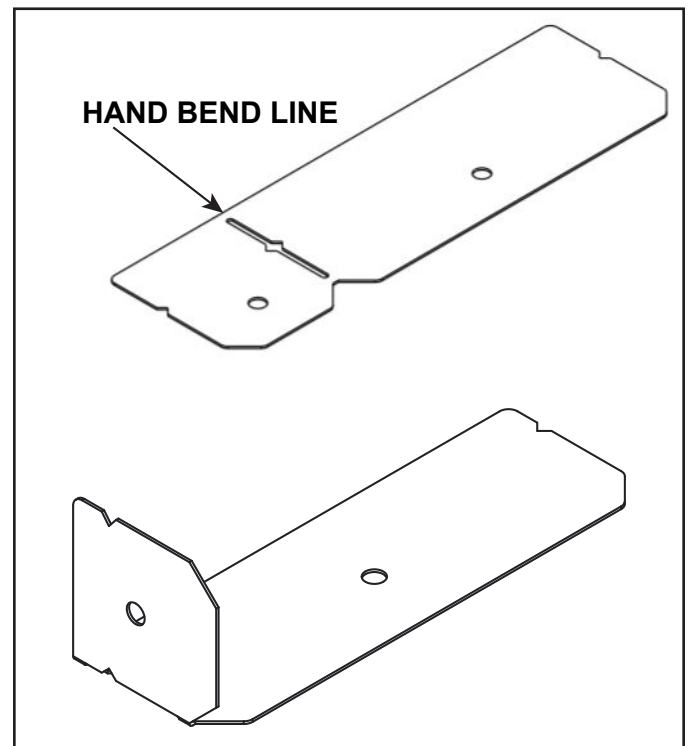

Figure 10 Hand Bending the Template
1. Hand bend templates as shown in Figure 10.